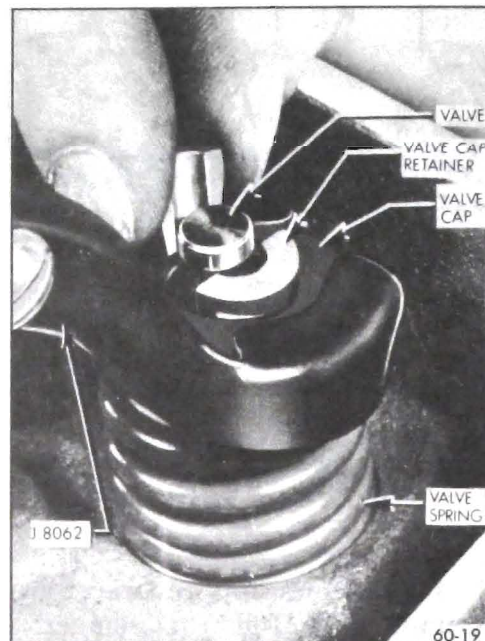

Figure 60-105 - Removing Valve Cap Retainers
keys. Release tool and remove spring and cap then, remove oil seal. See Figure 60-105.
21. Rinse push rod seat and plunger retainer, place these parts in end of body and depress with handle of Remover J-5238 until retainer engages groove in body. See Figure 60-105.